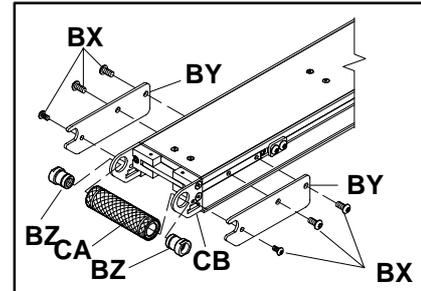
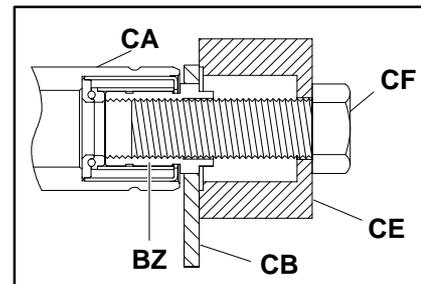

Figure 22: Tail Pulley Replacement Detail (Replacement Pulley is Knurled, as shown)
Figure 24
Remove the tail cover plate screws (BX of Figure 22) and tail cover plates (BY) on both sides of the conveyor.
Position the bearing anvil/sleeve removal tool (CE of Figure 24), part number \*25-09 over the retaining sleeve (BZ of Figure 22).
Insert the threaded bolt (CF of Figure 24), part number ☆906-278 through the bearing anvil/sleeve removal tool (CE) and into the retaining sleeve (BZ).
Refer to Figure 22 and proceed as follows:
Insert pulley (CA of Figure 22) between the tail pulley plates (CB).
Secure the tail cover plates (BY of Figure 22) to the conveyor with tail cover plate screws (BX).